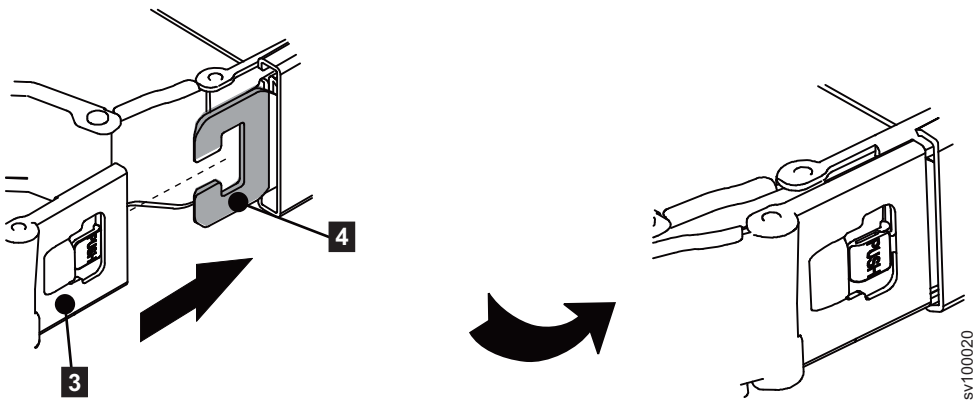

Figure 25. Install the outer member
3. Install the cable-management arm outer connector (3) onto the cable-management arm connector base on the outer member (4). Refer to Figure 25.